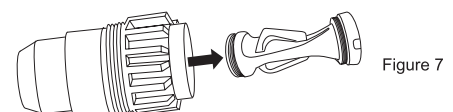

Figure 7
5. Remove diaphragm from cup assembly (see Figure 7) and inspect for foreign objects or wear. Rinse thoroughly with clean water before reinstalling. Replace diaphragm if necessary.